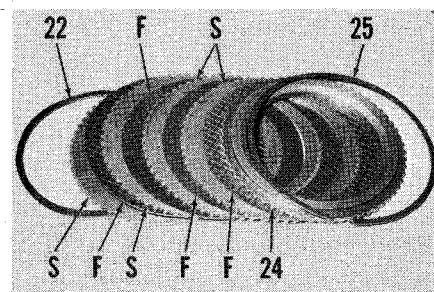

Fig. 141—View of direct drive clutch pack showing order of friction plates (F), steel plates (S), feathering spring (22), plate (24) and snap ring (25).
To assemble direct drive clutch, reverse disassembly procedure. Refer to Fig. 141 for view of clutch pack. Be careful not to damage seal rings of piston when installing. Renew main bearing in housing (1—Fig. 143) if worn. Install thrust washer (32) and planetary gear assembly (33) on shaft (31) and press bearing (34) on shaft (31).
Fig. 143—Exploded view of Dual Power assembly. Refer to Fig. 141 for view of direct drive clutch pack assembly. Note: clutch feathering spring (22) deleted in Nov., 1979.